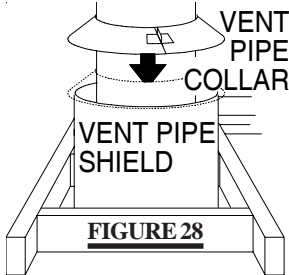

FIGURE 28
5. Thread the air terminal pipe assembly down through the roof support and attach, ensuring that a minimum 16" of air terminal will penetrate the roof when fastened. **FIGURE 22.** If the attic space is tight, we recommend threading the Wolf Steel vent pipe collar or equivalent loosely onto the air terminal assembly as it is passed through the attic. **FIGURE 28.** The air terminal must be located vertically and plumb.